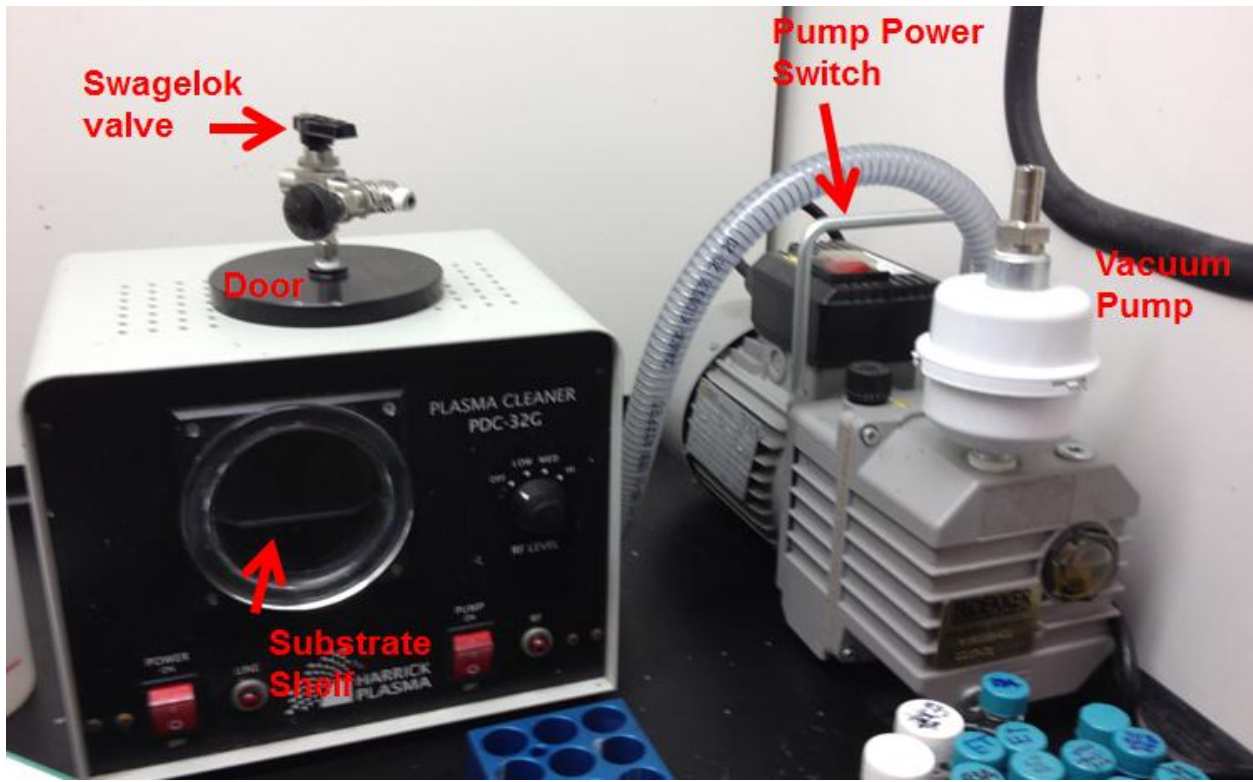

Figure 1. Schematic for O2 Plasma Cleaner
- Refer to Figure 1 for Plasma Cleaner Schematic